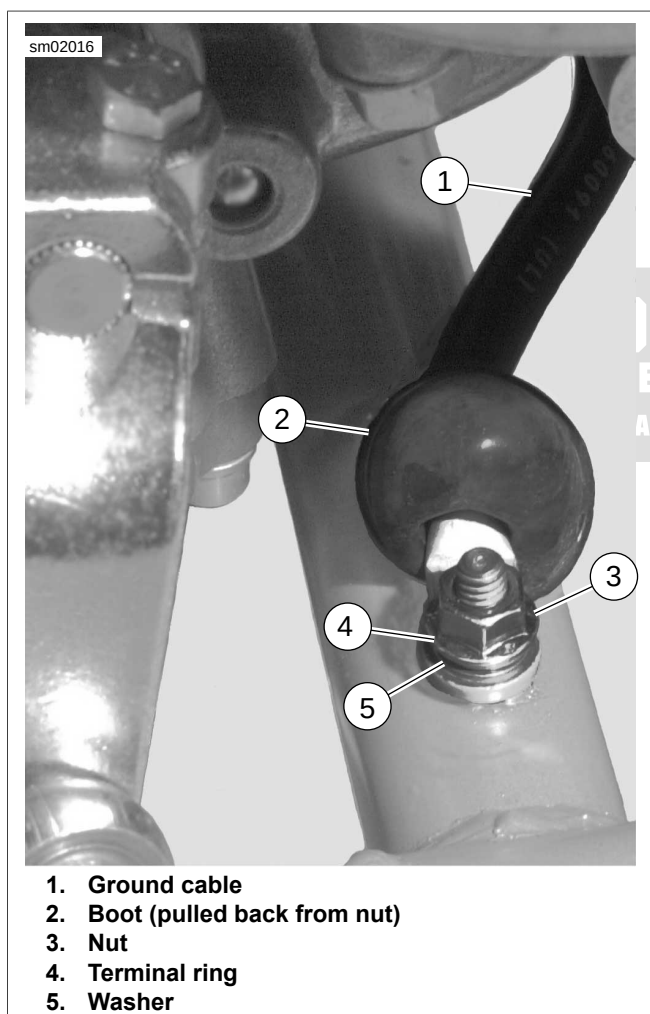

Figure 2-16. Ground Cable Installation
7. See Figure 2-16. Fasten ground cable (1) terminal ring (4) with washer (5) to frame. Tighten to 6-10 Nm (53-88 **in-lbs**) and install rubber boot.